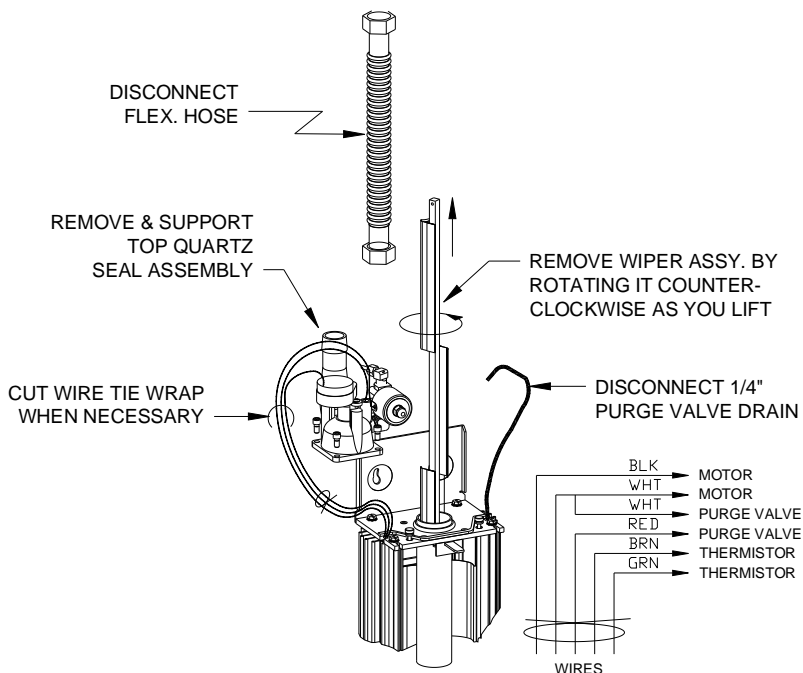

Figure 4C
Step 5: Remove the top quartz seal assembly (Figure 4C) by lifting it straight up. The wires are bundled together using a tie wrap. If you require more room to lift the top quartz seal assembly, cut the tie wrap to give you more freedom to lift the assembly over the wiper shaft.
Step 6: Remove the wiper assembly (21) by carefully lifting it up and out of the quartz sleeve. Rotating it as you lift will help. **Caution: the wiper blades are sharp, handle them with care.**